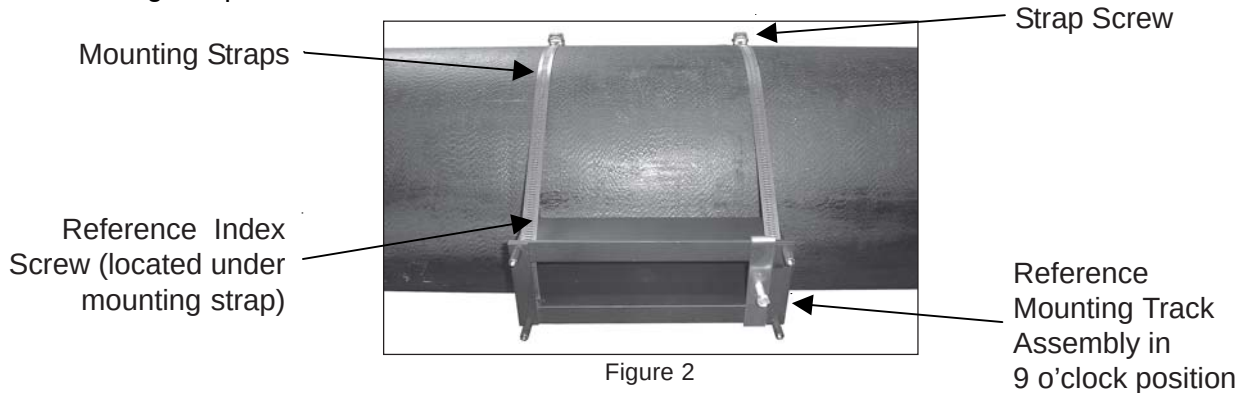

Figure 2
- Using a flat blade screwdriver or 5/16" nutdriver, mount the Reference Mounting Track on pipe. Install straps but do not tighten at this time (Figure 2). *IMPORTANT: Make sure Reference Index Screws on mounting tracks are facing toward each other.*